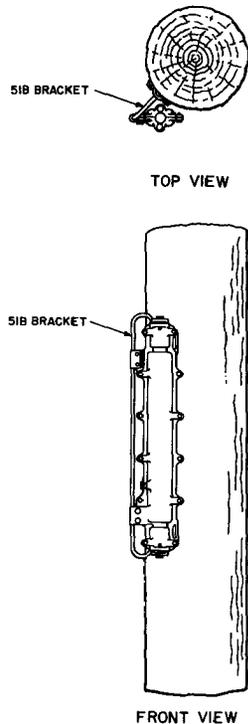

Fig. 4—Mounting Bracket to Pole
3.02 Mount 20-type splice cases on the 51B bracket with either the strand lugs or the 50A hangers furnished with the splice case (Fig. 4).